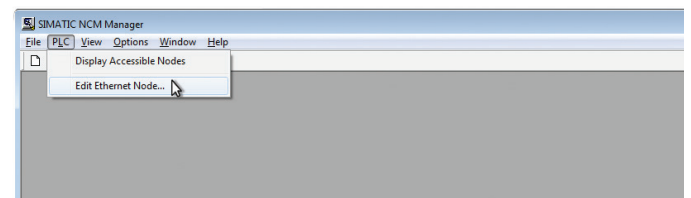

Fig. 20: Select the MTS R-Series Profinet sensor (step 1) (source: Siemens)
1. Select the MTS R series Profinet IO RT sensor as described below (Fig. 20):